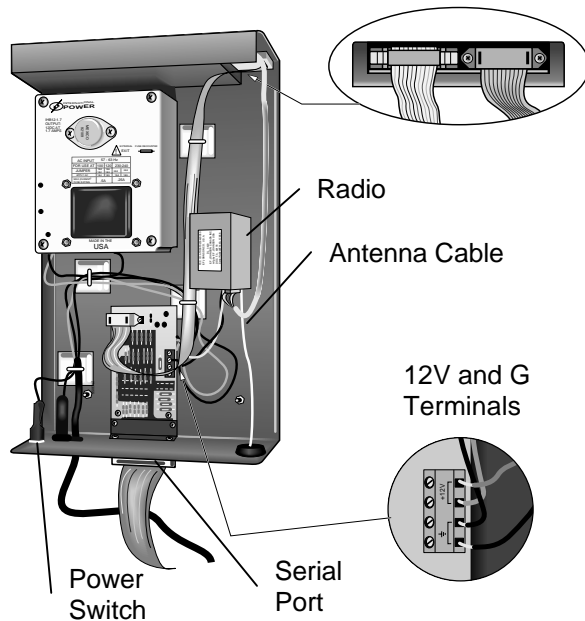

FIGURE 3.3-6. RF232 Base Station Installation
2. With the power cord disconnected, remove the four screws that attach the RF232 lid. Remove the lid, and install the RF200 transceiver as shown in Figure 3.3-6. Connect the red wire to the "12 V" terminal, and the black wire to the "⊥" terminal inside the RF232. Connect the multi-colored ribbon cable to the RF modem; make sure that the keyway is properly aligned.